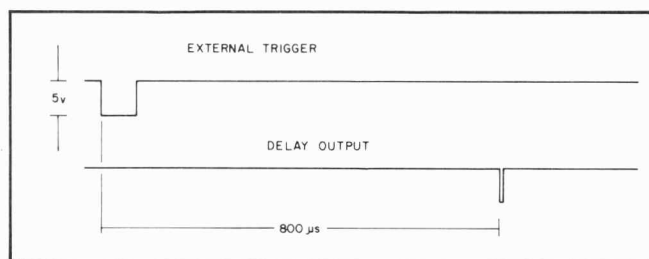

Figure 3-5. Delayed Output.
e. Adjust the 3310A output level and oscilloscope trigger level to obtain a display as illustrated in Figure 3-5. (Assure that the 3310A output is of sufficient amplitude to trigger the 3437A.)